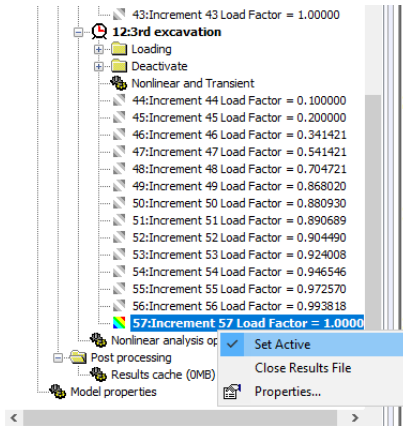

Figure 66: Setting the active results
- In the Analyses  treeview, in the loadcase named **3rd excavation**, right-click on the final increment having a load factor of **1.0** and then click on **Set Active** (figure 66).